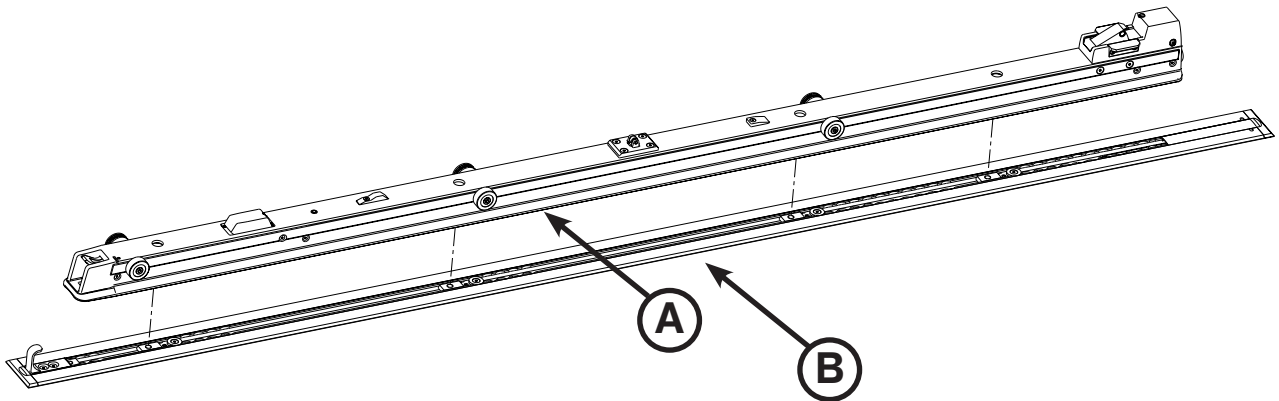

Figure 15: Anchor Assembly and Floor Plate Assembly
36. Carefully place the anchor assembly (A) on top of the floor plate assembly (B) as shown in Figure 15, laying the excess wire into the floor plate pocket. Align the four holes with the floor plate attachment brackets.